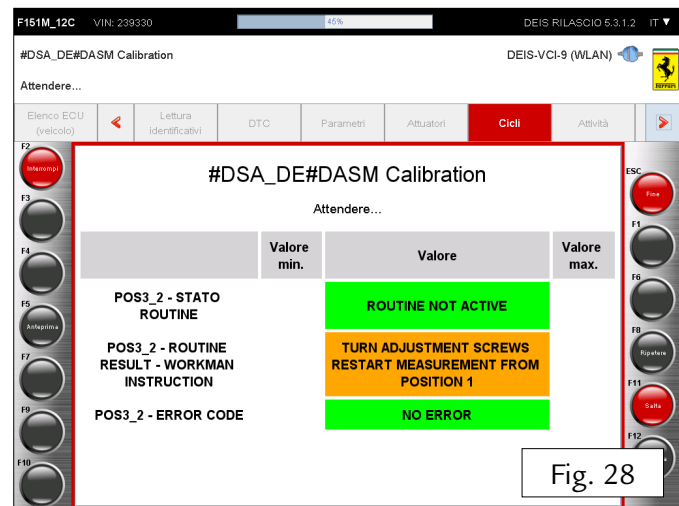

Fig. 28
- Once the cycle is complete, the DEIS informs the user of the adjustments necessary to calibrate the radar correctly – Fig.28.